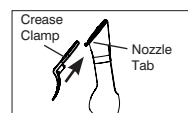

Figure 5
7. Attach the crease clamp (Fig. 5) onto the nozzle tab and gently push into place.
- Attach the crease clamp to the steam nozzle (Fig. 5).